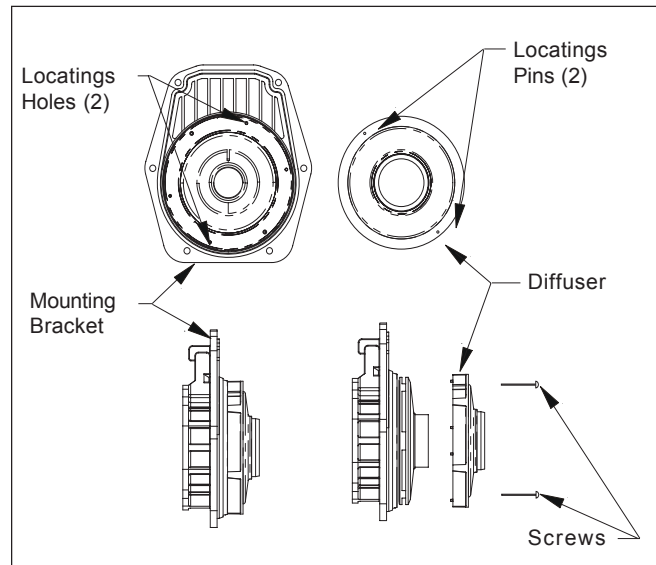

Figure 2. Removing the Diffuser
5. Using a No. 1 Phillips screwdriver, remove the two (2) screws holding the diffuser (the cover over the impeller) and remove the diffuser (See Fig. 2). Remove the diffuser o-ring. It may be stuck in the pump body cone (See Fig. 3).